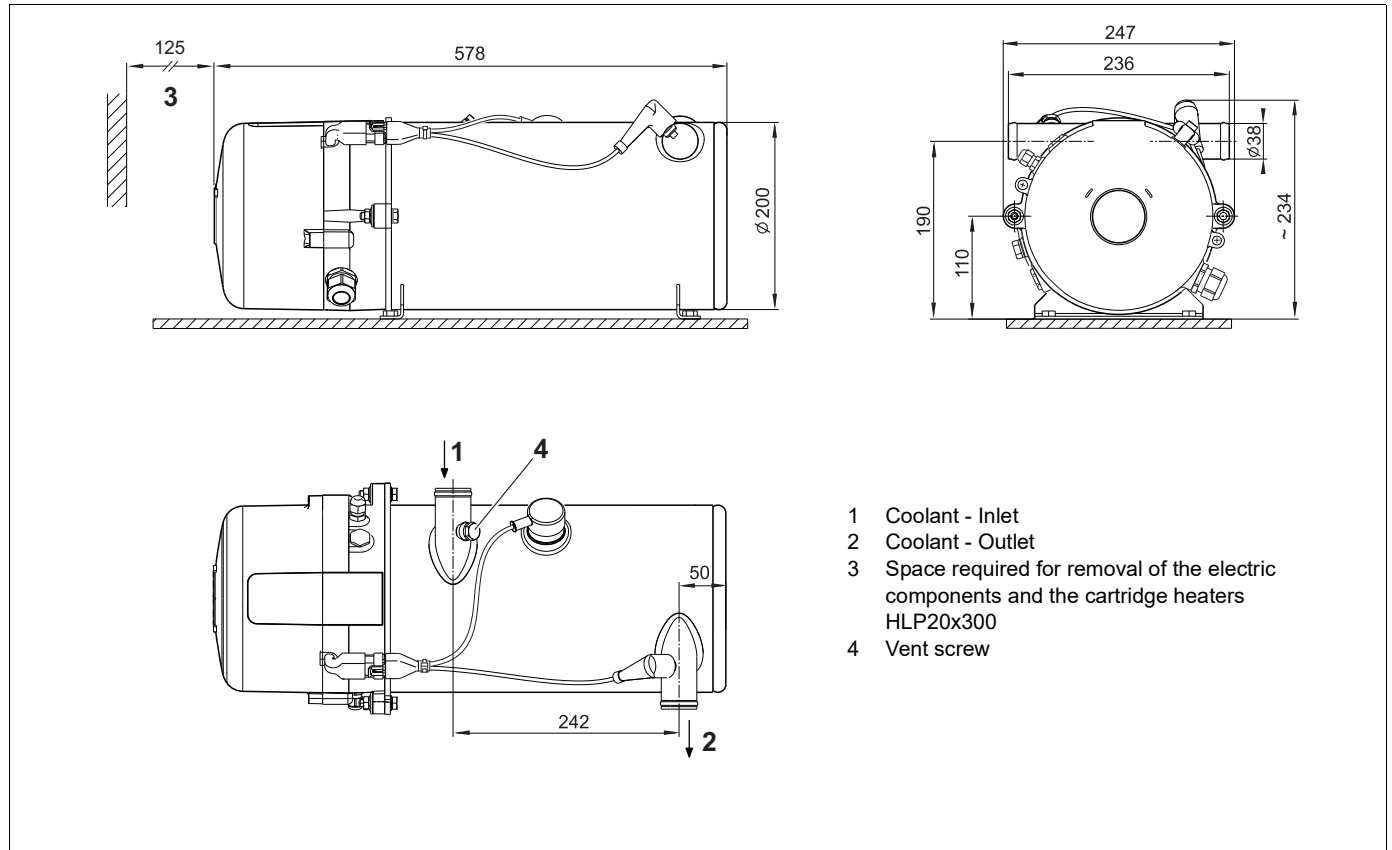

Figure 10: Dimensions of the heating appliance Thermo DC
The dimensions of the heating appliance, the permitted installation locations, and the hole pattern for the fastening can be found in figures 10 and 11.
The heating appliance is connected to the vehicle's cooling system according to figure 10. The volume of coolant fluid present in the circuit must be at least 25 liters. The water in the heating circuit of the heating appliance must contain at least 30 to 60% of a branded antifreeze agent. An up-to-date list of Spheros recommended anti-freeze agents can be found on the Spheros website.
When installing the electric heater the direction of the flow of the cooling water in the circuit is to be considered (see figure 10).
For that the additional venting option via the vent screw item 4, figure 10 is to be used after the system has been filled and the pump has been switched on.